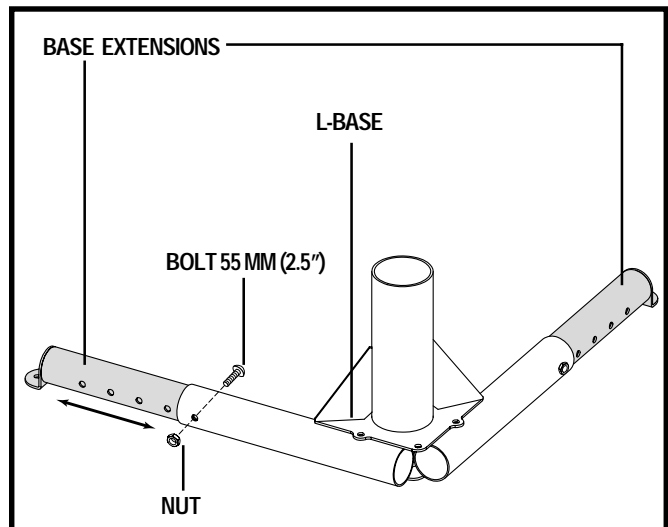

Figure 2. L-Base Extensions
1. Assemble the L-Base. See **figure 2**. For optimal use, insert the base extensions into the L-base at their farthest extension point and install the hardware (nuts and bolts). The base extensions can be adjusted to accommodate obstructions.